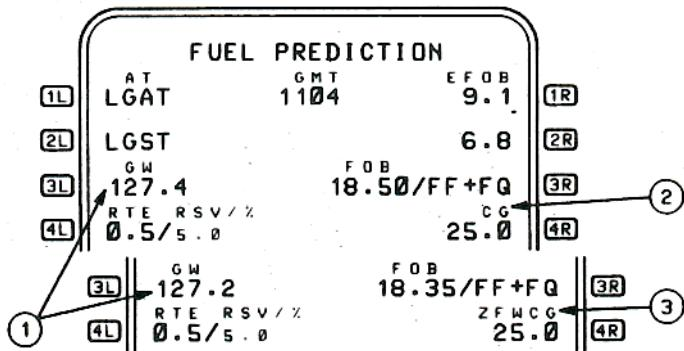

Figure 2-64
After engine start INIT page B is no longer available, therefore, revisions to GW and CG, made just prior to takeoff, must be accommodated on the FUEL PRED page (Figure 2-64).
The GW field is displayed (1) (Figure 2-64) whenever the ZFW has been initialized on INIT page B. An update to GW made during taxi should be the sum of the ZFW and the present FOB as displayed on the bottom portion of the left ECAM.
It is important to realize that both the CG (2) (Figure 2-64) and ZFWCG (3) (Figure 2-64) fields in 4R are only displayed in the PREFLIGHT phase.